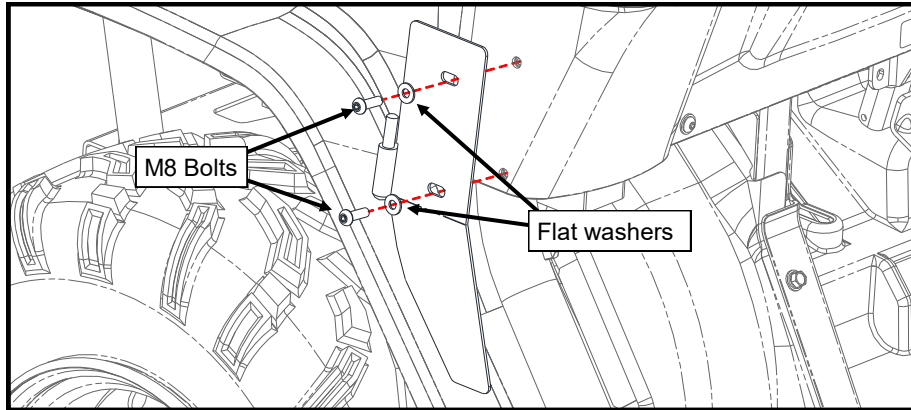

Figure 15.1: Lower Hinge Mount for Front Doors (Driver's side shown)
- 15.1 Remove two plugs from each side of the dashboard, just behind the front fenders (see Figure 15.1).